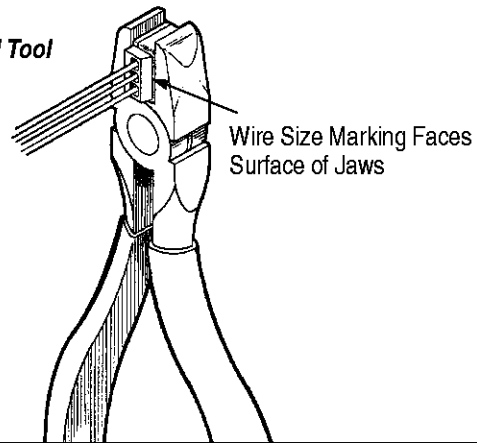

Figure 3
3. Place the connector between tool jaws so that the connector wire size marking faces the surface of the jaws. See Figure 3.